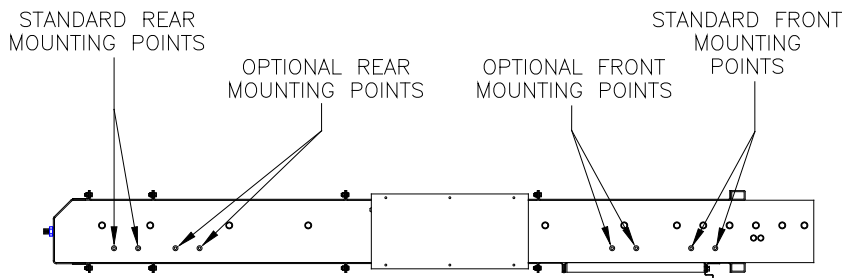

FIGURE 2-1: LIFT MOUNTING POINTS
- Refer to **Figure 2-1**. The mounted weight of lift is received at eight standard attachment points (four on each side of the enclosure). There is a 5/16-18 threaded insert at each point.